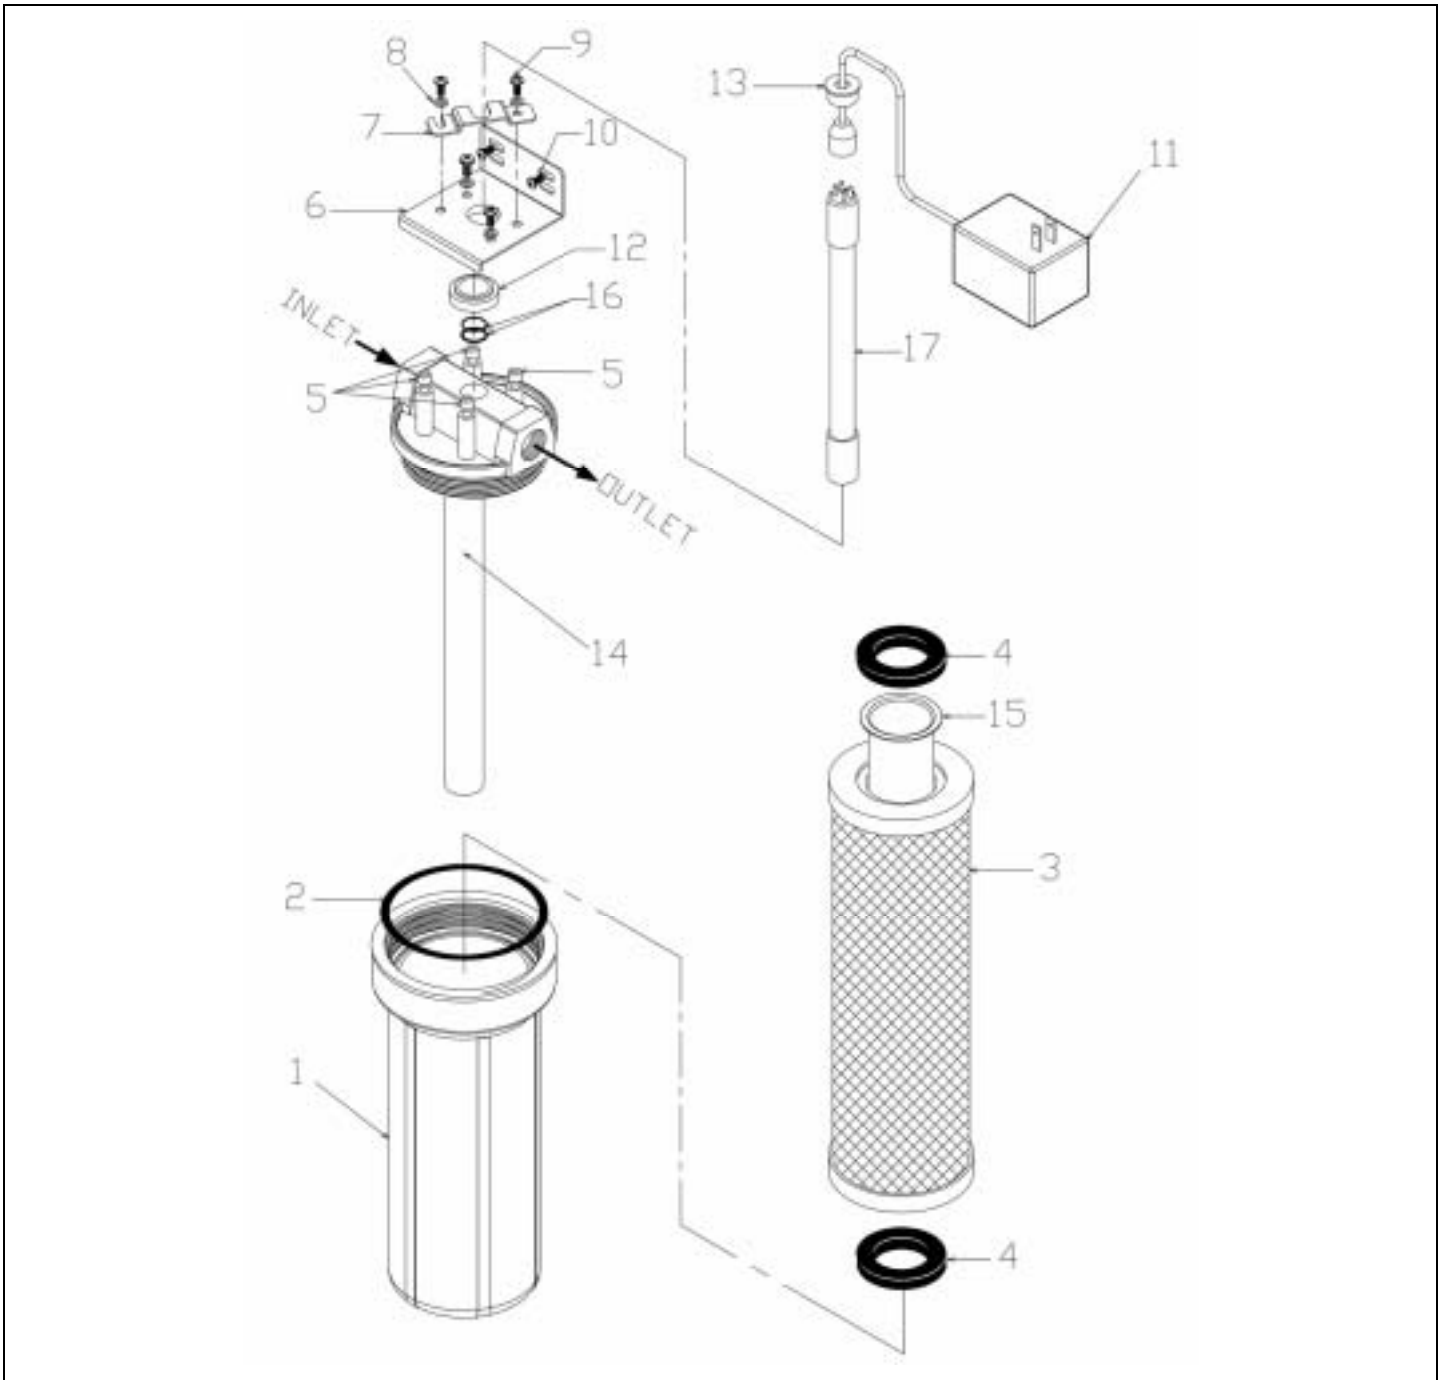

Figure 7 Exploded Schematic, **PURA UV1 Series**
NOTE: All Item callouts refer to Figure 7.
2. Install EPCB™ Sleeve (Item 15) into EPCB™ Carbon Filter (Item 3) as shown in Figure 7.
3. Insert filter/sleeve assembly into sump as shown in Figure 7 with both Filter Gaskets (Item 4) in place.
CAUTION: Verify that inlet and outlet ports are connected to appropriate inlet/outlet pipes (see Figure 7).